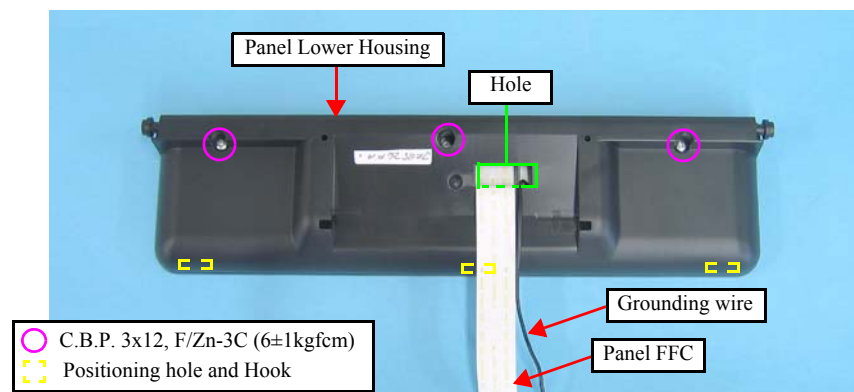

Figure 4-32. Removing the Panel Lower Housing
- When installing the Panel Lower Housing, tighten the screws after aligning the positioning holes (x3) of the Panel Lower Housing and the hooks (x3) of the Panel Cover as shown in Figure 4-32.